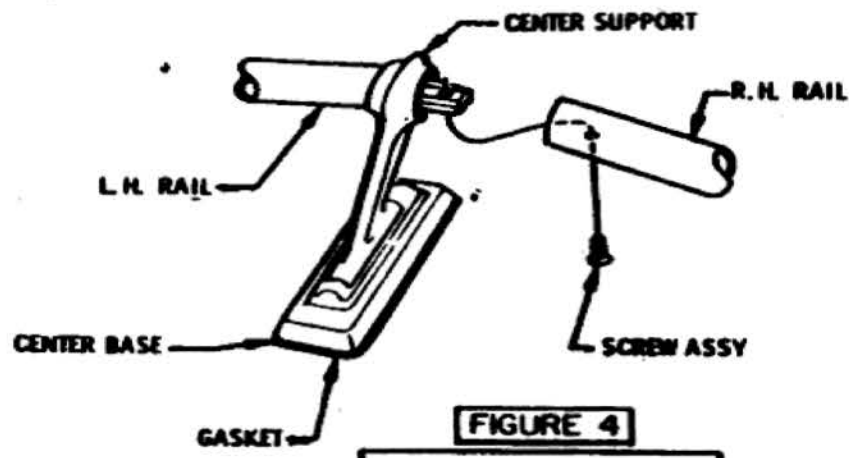

FIGURE 4
3. FASTEN RAILS TO SUPPORT ASSEMBLIES. SEE FIGS. 4, 5, AND 6.